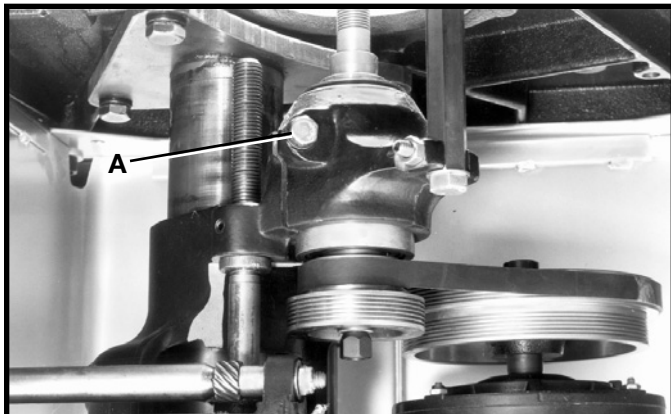

Fig. 44
1. **IMPORTANT:** When replacing the spindle cartridge, loosen bolt (A) Fig. 44. Remove the cartridge. Insert new cartridge. Tighten bolt (A) Fig. 44, **ONLY** 7 TO 10 foot pounds.